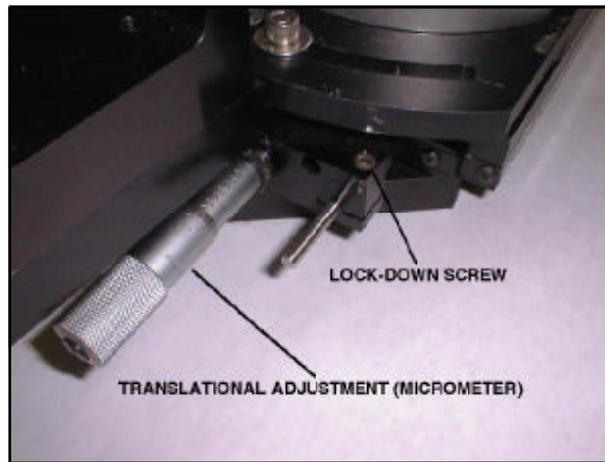

Figure 2-12. ϕ -plate translation adjustment.
- 11) Loosen the lock-down screw on the translational adjustment, or micrometer, Figure 2-12. Translate the ϕ -plate left and right by rotating the micrometer to achieve a maximum reading through the pinhole.
- 13) When satisfied with the intensity reading, tighten the lock-down screw on the translational adjustment, Figure 2-12, and confirm the ϕ -axis does not move.